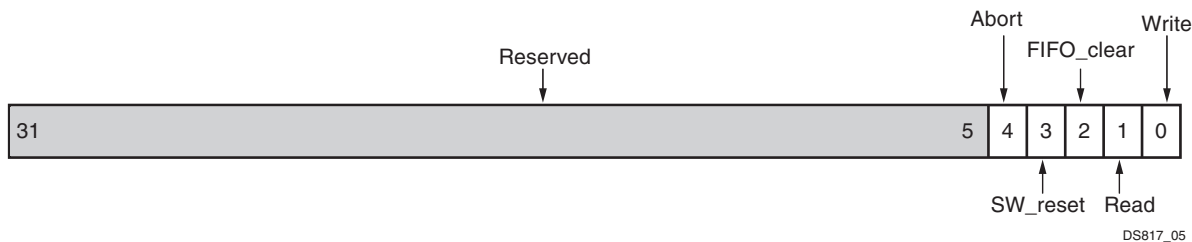

Figure 5: Control Register (CR)
The Control Register (CR) shown in Figure 5 is a 32-bit write register that determines the direction of the data transfer. It controls whether a configuration or read back takes place. Writing to this register initiates the transfer. The bit definitions for the register are shown in Table 8. The offset and accessibility of this register from the C_BASEADDR value are shown in Table 4.